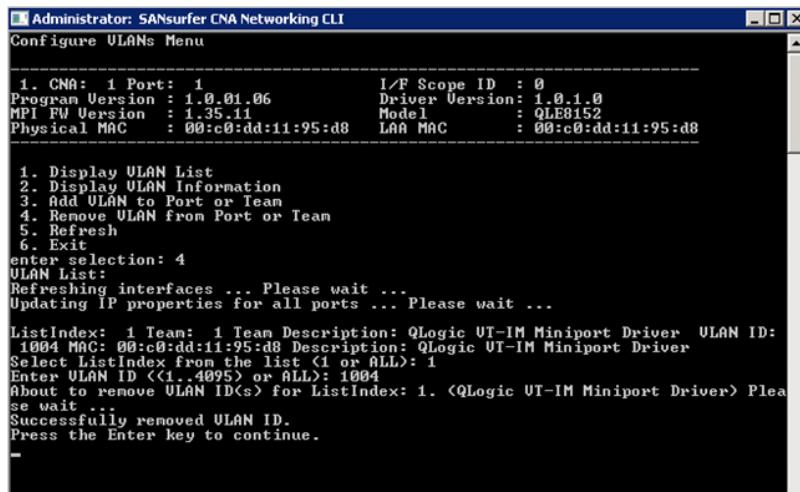

Figure 6-20. Removing VLAN ID Assignments
3. In the Configure VLANs menu, type **4**, and then press ENTER to select **Remove VLAN from Port or Team** (Figure 6-20).